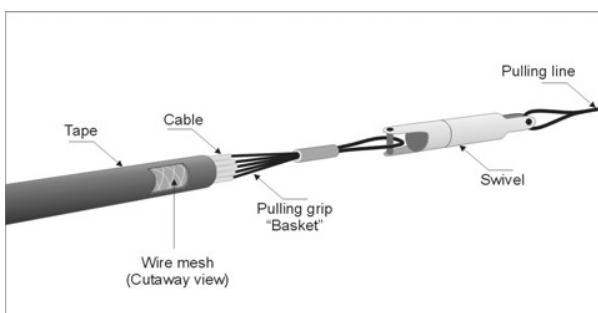

Figure 6. Swivel and pulling grip
- The pull can be accomplished by using a cable pulling winch. Care must be taken not to exceed the cable's rated pulling strength. The cable should be coupled to the pulling line with a double swivel eye and basket or "Kellam's" grip.(Figure 6).